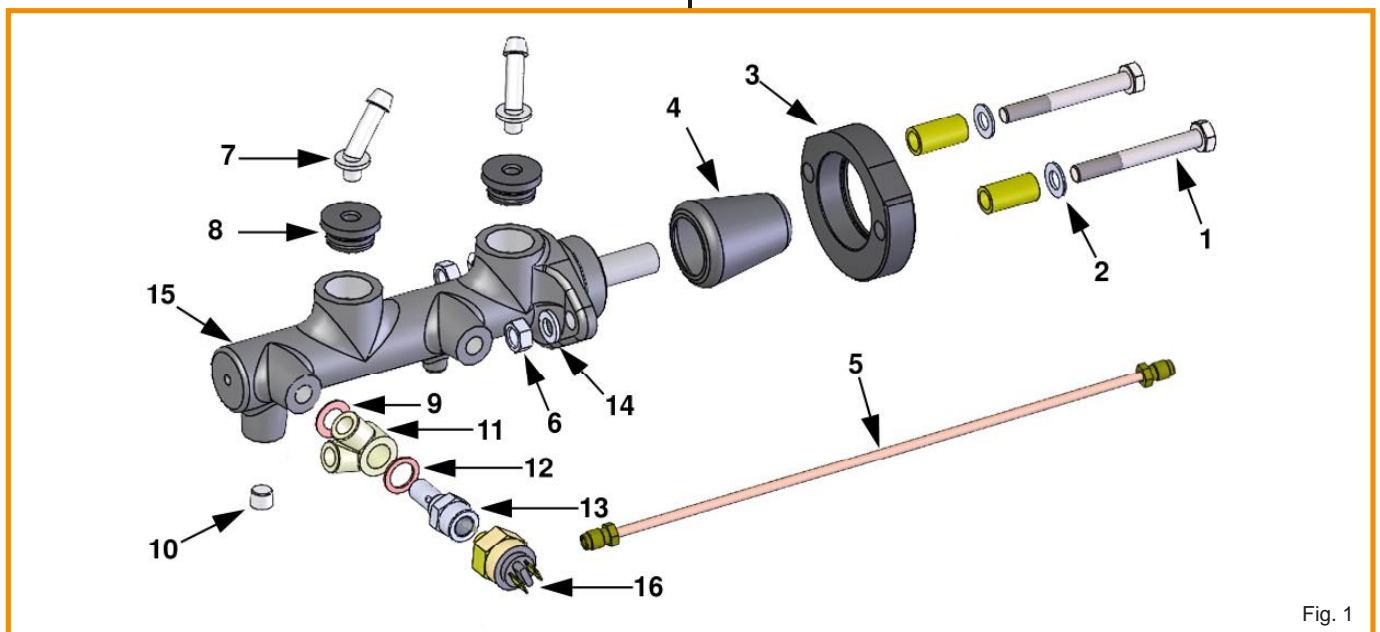

Fig. 1
- Screw in the hex head pipe plug (Pos.10, Fig.1) with a copper washer (Pos.9, Fig.1) in the bottom hole of the master cylinder that is farthest away from the pedal pushrod.
- Put some brake fluid on the outside of the rubber grommets (Pos.8, Fig.1), then push them into the master cylinder.
- Put also some brake fluid on the outside of the plastic elbow connectors (Pos.7, Fig.1), then push them into the rubber grommets.
- Place the dust cover (Pos.4, Fig.1) onto the new master cylinder, and then slide the adapter ring (Pos.3, Fig.1) over the dust cover with the large inside diameter towards the master cylinder.
- Install the 2-way connector (Pos.11, Fig.1) with the copper washer (Pos.9, Fig.1) in the left hole that is farthest away from the pedal push and fix it with the copper washer (Pos.12, Fig.1) and the banjo bolt (Pos.13, Fig.1). Do not tighten the banjo bolt yet.